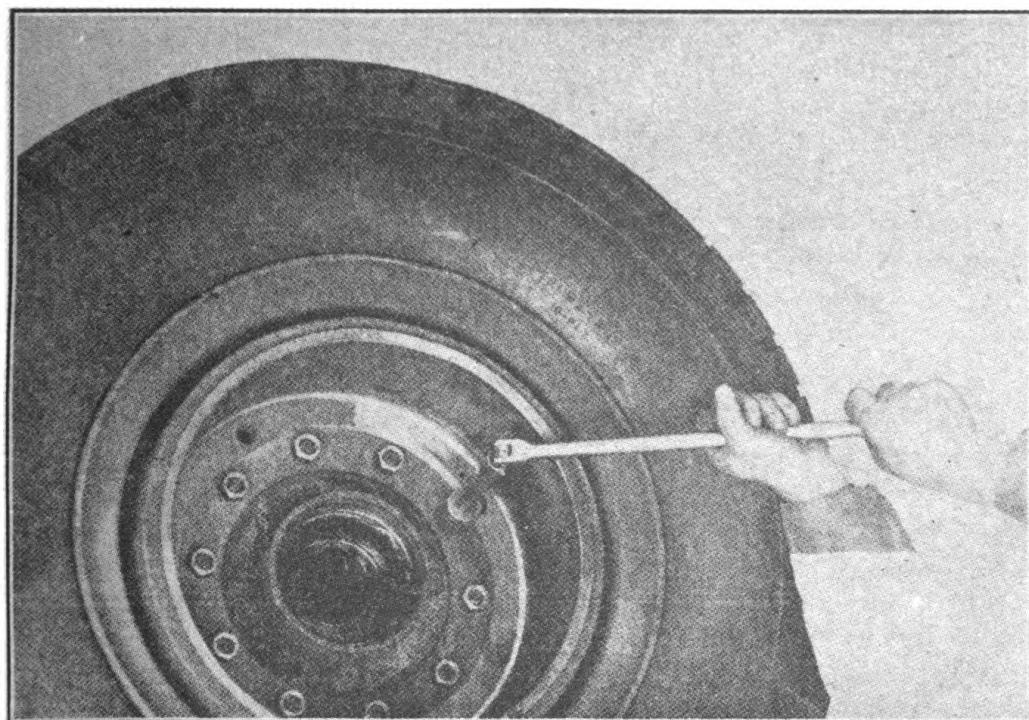

FIGURE 25. DRUM REMOVAL
- (1) Remove wheel and hub in an assembly.
(2) If changing drum on the front wheel, block the wheel at both sides and remove the drum by removing the ten nuts holding it to the hub assembly (Figure 25). When removing rear drums it will be necessary to remove wheel assembly from hub and the hub assembly from axle. Remove the six slot-headed bolts and lift the drum off hub pilot.
(3) Remove any rust or dirt in the drum pilot and install the new drum.